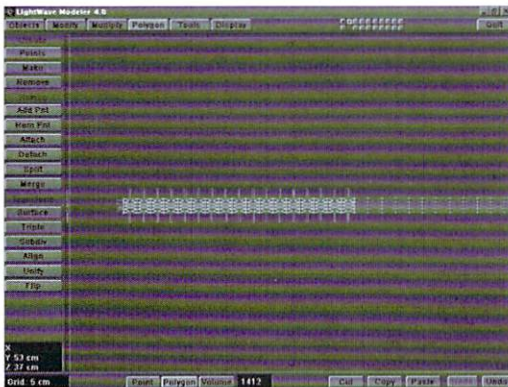

Figure 9: The 17 rows of polygons that need to be highlighted.
- Highlight the first 17 rows of polygons on the left of this view near the -Z axis as shown in Figure 9, and click Hide Uns (Display panel or =).